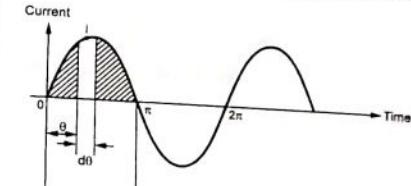

Fig. 2.6.1 Average value of an alternating current
- Consider the elementary interval of instant  $d\theta$  as shown in the Fig. 2.6.1. The average instantaneous value of current in this interval is say, ' $i'$ ' as shown.